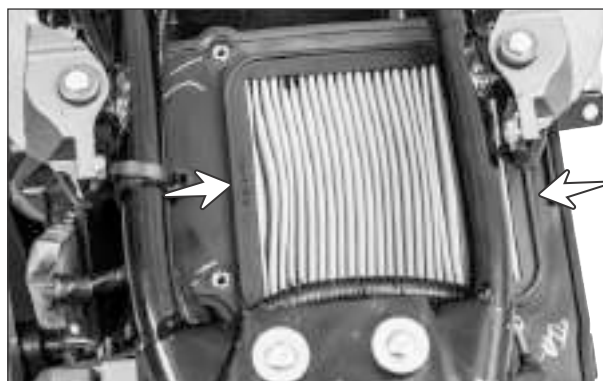

Fig. 2.42
- Remove and inspect the air cleaner element for any blockage / abnormality. Replace the element if any block or damage is found. (Fig. 2.42)